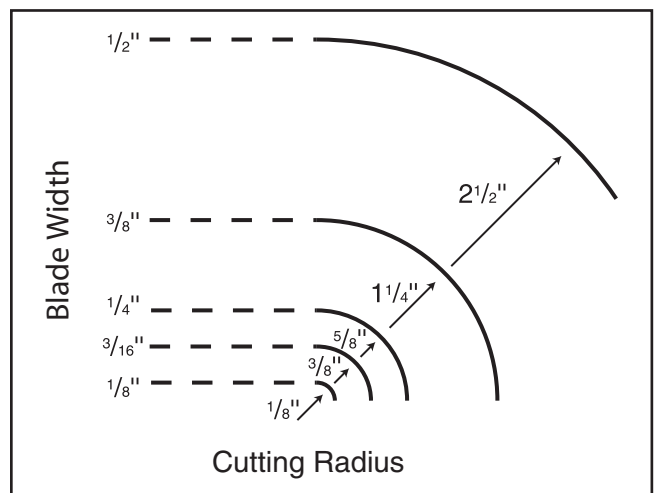

Figure 34. Blade width radii.
- **Curve Cutting**—Use the chart in **Figure 34** to determine the correct blade for curve cutting. Determine the smallest radius curve that will be cut on your workpiece and use the corresponding blade width.